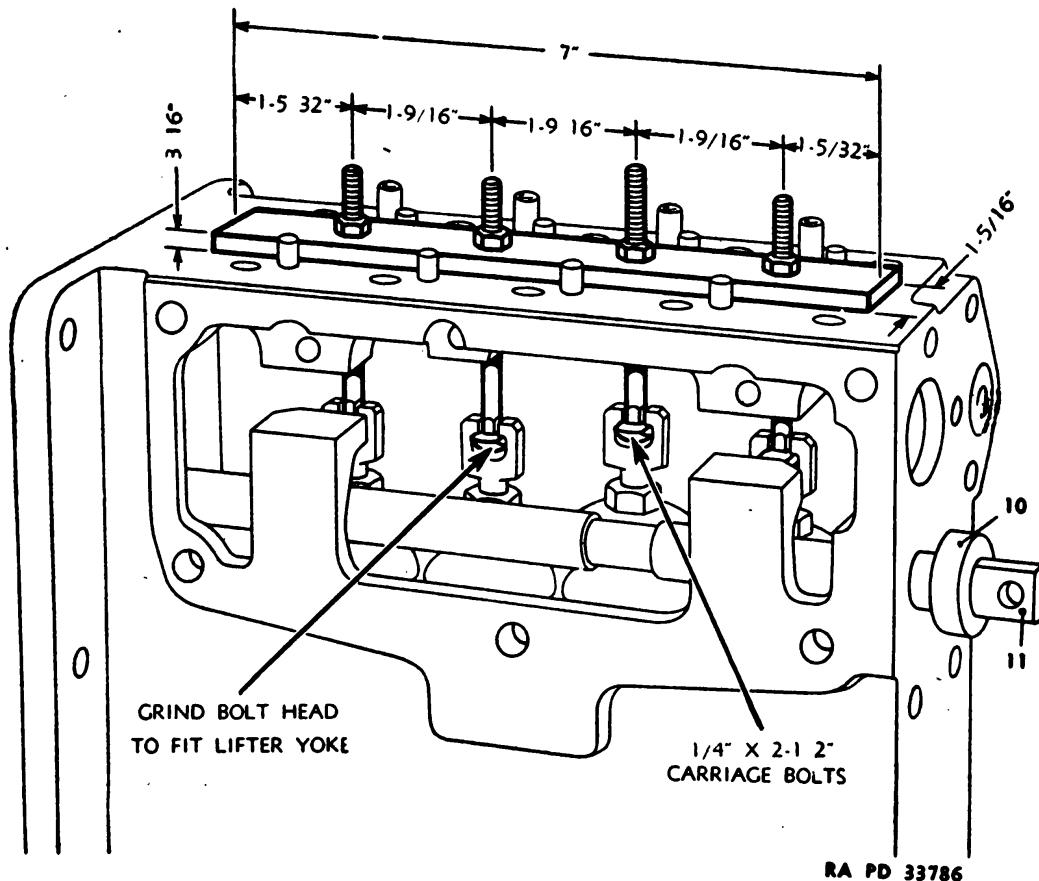

FIGURE 63.—Plate construction for the removal of fuel injection pump lifter springs.
b. With a plate (fig. 63) constructed as shown, hold up lifter assemblies with carriage bolts or wire the lifters in position and then remove fuel injection pump camshaft after thrust plate and bearing assembly have been removed.